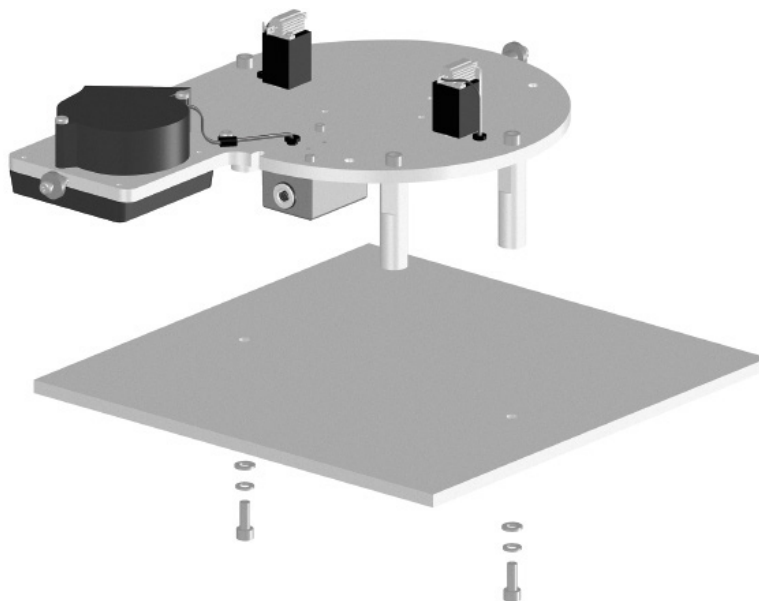

FIGURE C-6. Mounting CVF4 feet to a mounting stand
4. Fasten the CVF4 feet to the mounting stand by using the supplied washers and screws (FIGURE C-6).